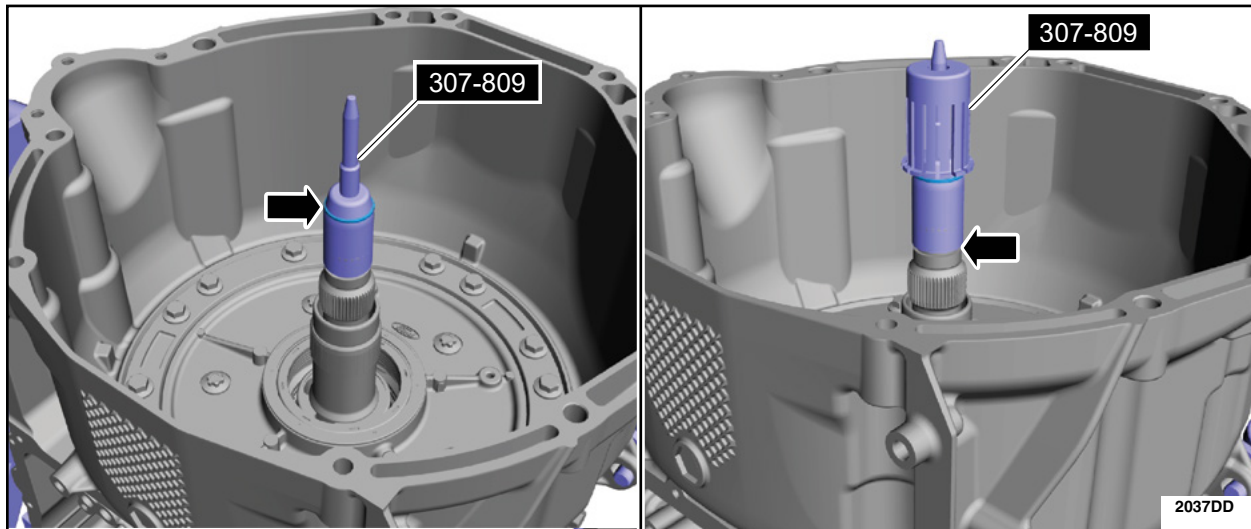

FIGURE 23
25. Install a new Teflon® seal on special tool 307-809. Using the top half of the special tool, slide the Teflon® seal into the groove. Remove the special tools and repeat the steps for the other damaged torque converter seals. See Figure 23.